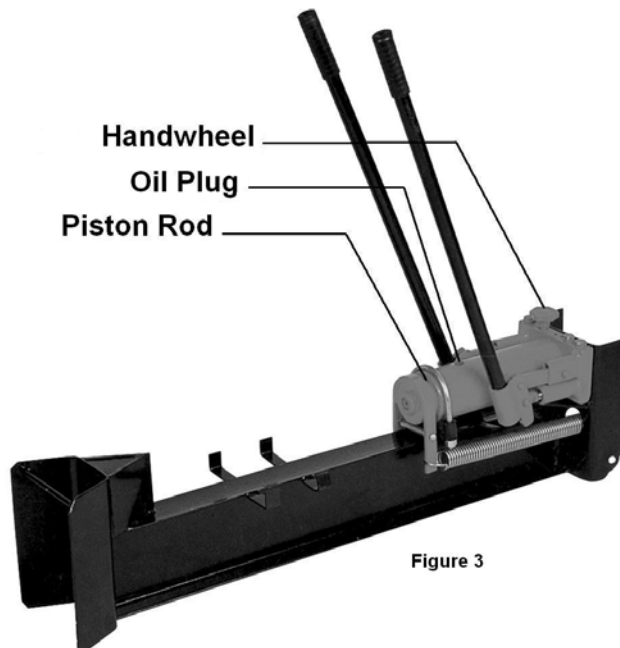

Figure 3
2. Remove the oil Plug and make sure the oil level is full. If needed add more hydraulic oil to the hydraulic pump (Figure 3).